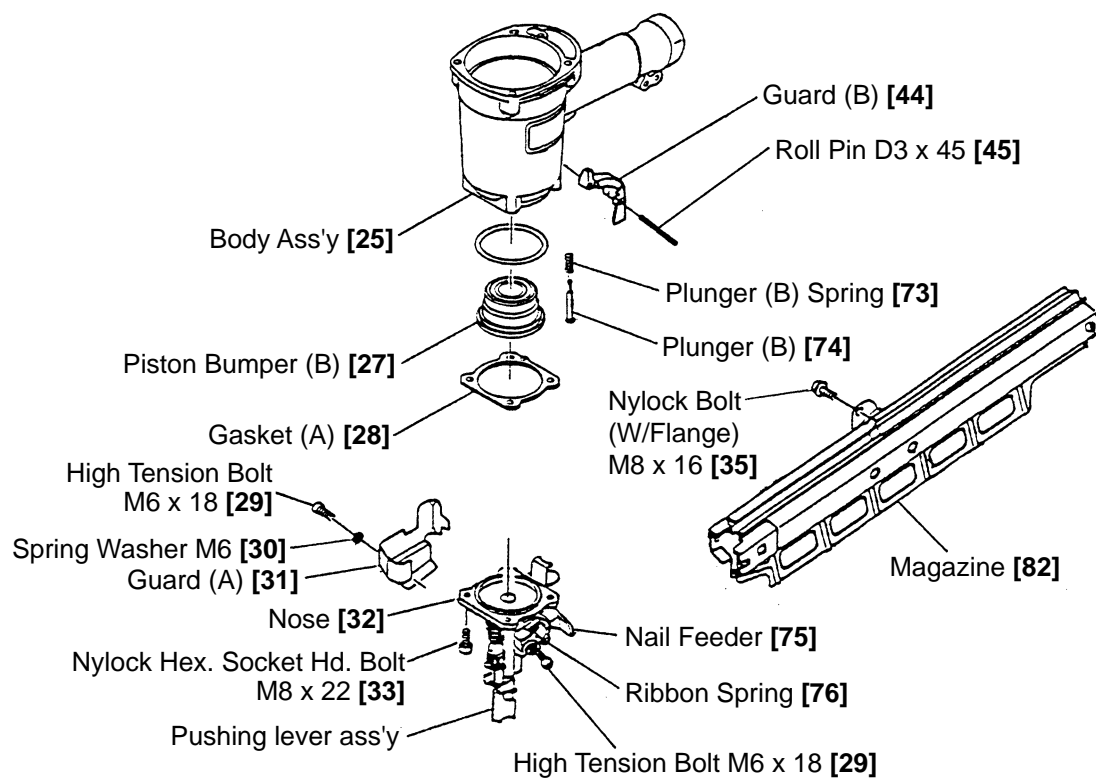

Fig. 13
(3) Piston Bumper (B) [27], Gasket (A) [28] and related parts (See Fig. 13.)